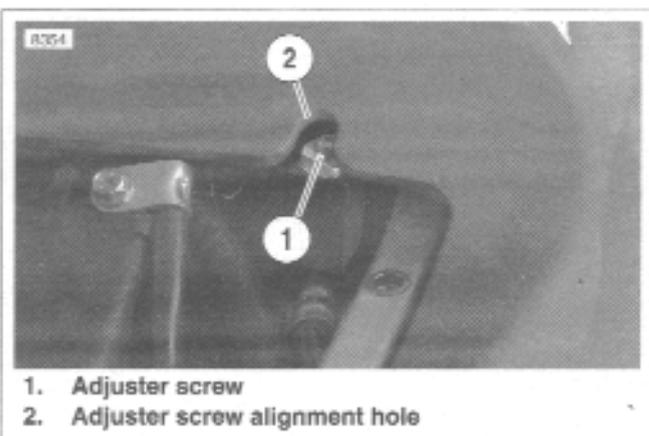

Figure 4-114. Adjuster Screw Alignment
See Figure 4-114. To ensure proper reservoir mounting, temporarily place upper body work onto tail section and adjust reservoir placement so adjuster screw (1) aligns with alignment hole (2).